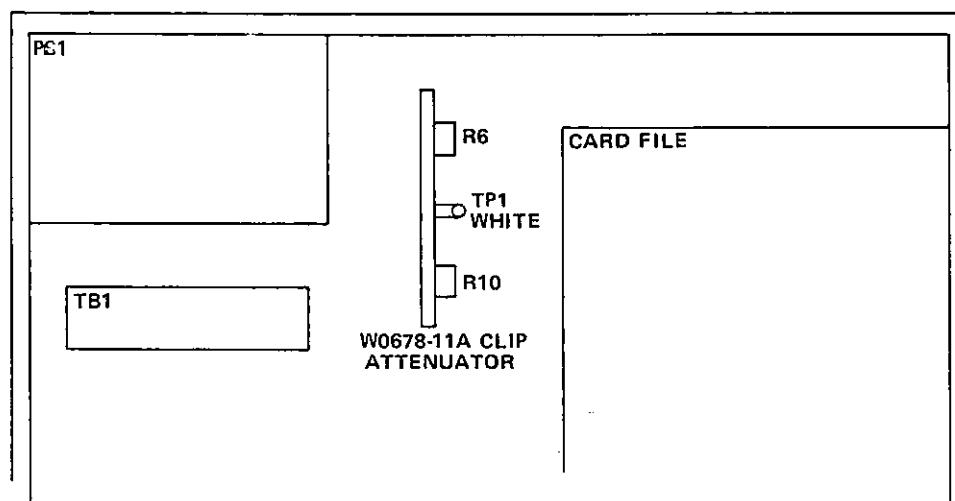

Figure 2.18. Top View of EPA Showing Location of Clip Attenuator Module
- d. On Channel B of the oscilloscope, monitor the Clip Attenuator Gate at TP1 (white test point) on the Clip Attenuator module (see Figure 2.18).
g. Adjust the potentiometer (R6) on the Clip Attenuator module (refer to Figure 2.18 for location of R6) until the pulse peak reading on the EPA DPM is the same as the value obtained in step e. ( $\pm 1$  volt) or in accordance with local directives. Since the volt/ampere ratio of the Current Transformer (Pearson Model 1705) is 1/10, the peak current on the antenna may be obtained by multiplying this reading by ten.